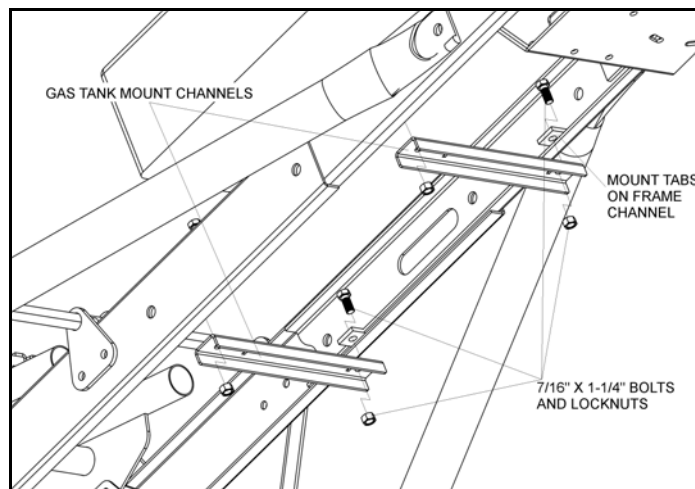

Figure 3.52 Gas Tank Mount
1. Install gas tank mount channels with 7/16" x 1-1/4" bolts and locknuts as shown in Figure 3.52. Each bolt should first pass through a gas tank mount tab (located on the inside of the frame channel) then the gas tank mount.